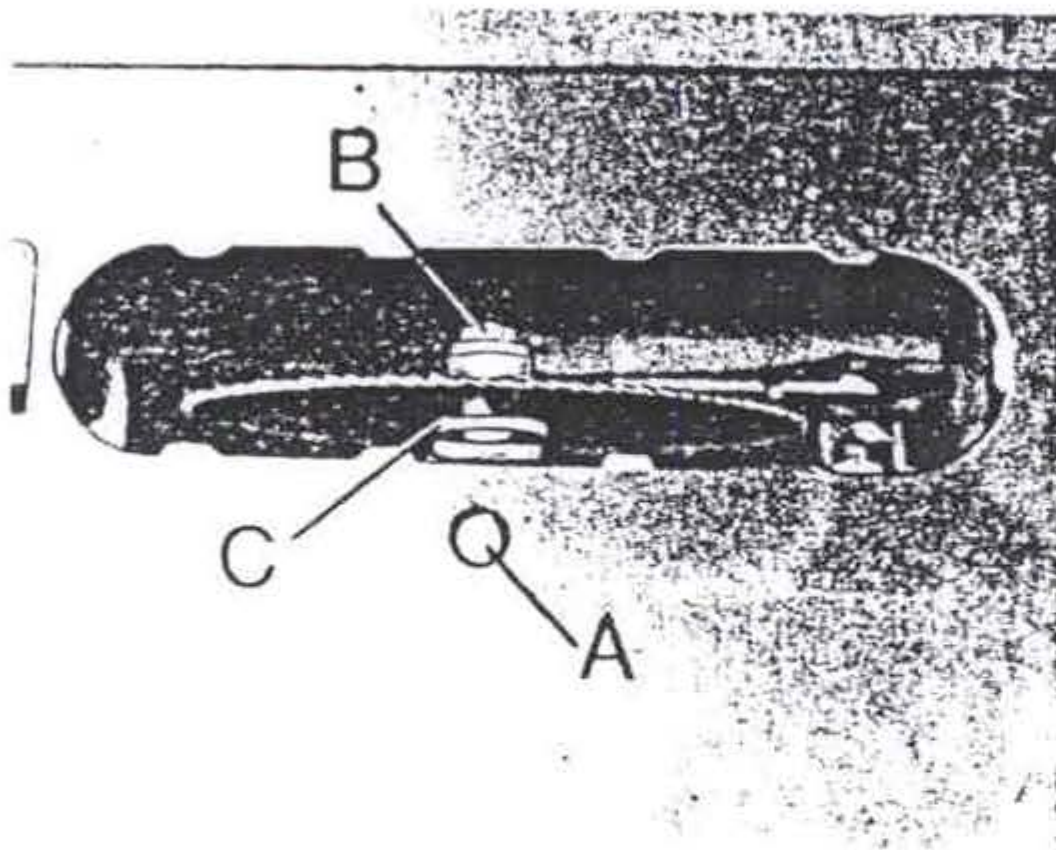
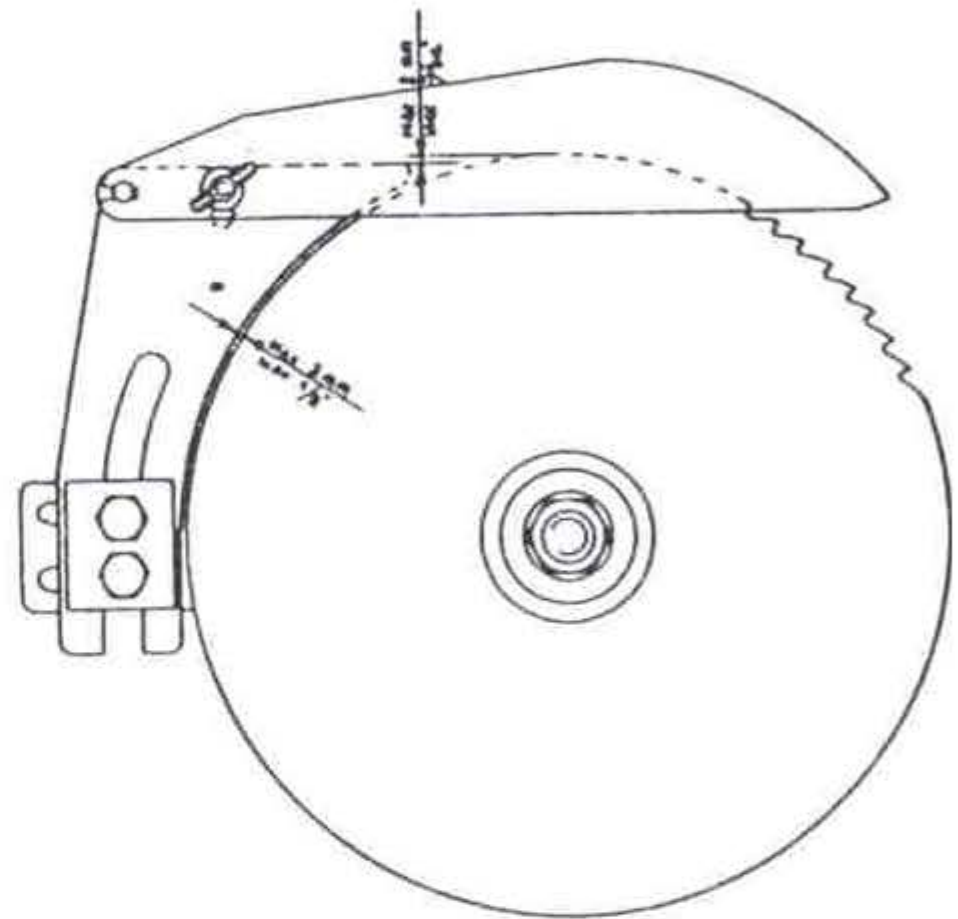

Fig. 8
Fig. 9
#### IV MOUNTING OF THE SAW DISK (fig. 8) AND GUARD (fig. 9)
- Press the red push-button (A) that emerges from the table gap and simultaneously rotate the shaft manually until it locks.
- The disk tightening screw (B) has a left hand threading.
- For an eventual utilization of the entire length of the saw shaft remove the rear flange (C).
- After having mounted the disk, fix the riving knife as in (fig. 9) and mount on top the aluminium guard.